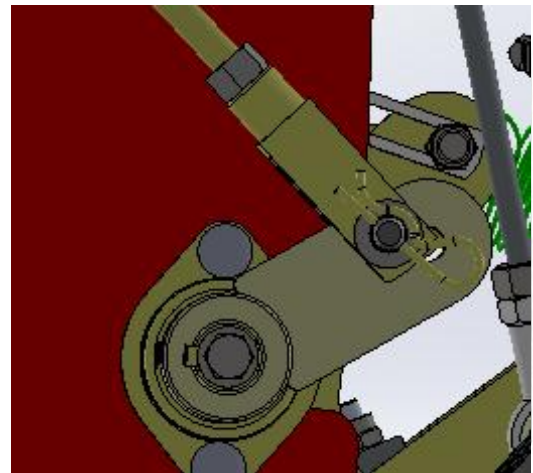

Figure 10
2. Make sure the speed control lever is in  position, remove hair pin cotter and the flat washer from swivel each side. Remove swivel from traction idler arm (figure 10),